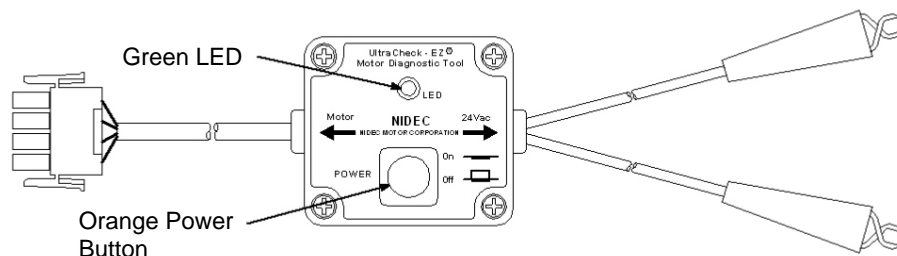

Figure 8
7. Use the table below to determine needed action. Complete steps 8-11 before proceeding to the next check. Press the orange button [Figure 8] on the UltraCheck-EZ® diagnostic tool and wait 5 seconds for the blower to spin.
8. Press the orange button [Figure 8] again to stop the blower and turn off the UltraCheck-EZ® diagnostic tool.